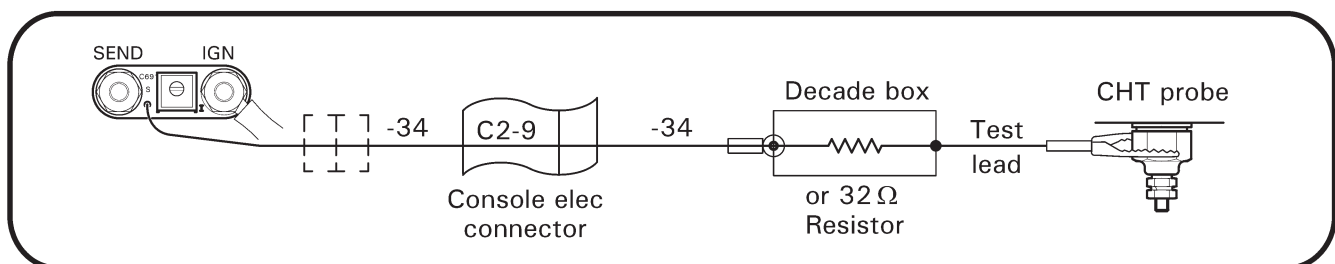

FIGURE 13-2 CYLINDER HEAT TEMPERATURE GAGE CALIBRATION
5. Refer to Figure 13-2. Adjust resistance decade box to 32 ± 0.4 ohms and verify resistance with multimeter. Alternately, a 32.0 ± 0.4 ohm resistor may be used instead of decade box. Connect a low-impedance (<1 ohm) test lead to one terminal on decade box and clamp opposite end of lead to hexagonal body of CHT probe; do not connect lead to center conductor of sender/probe. Connect -34 wire to remaining terminal on decade box.